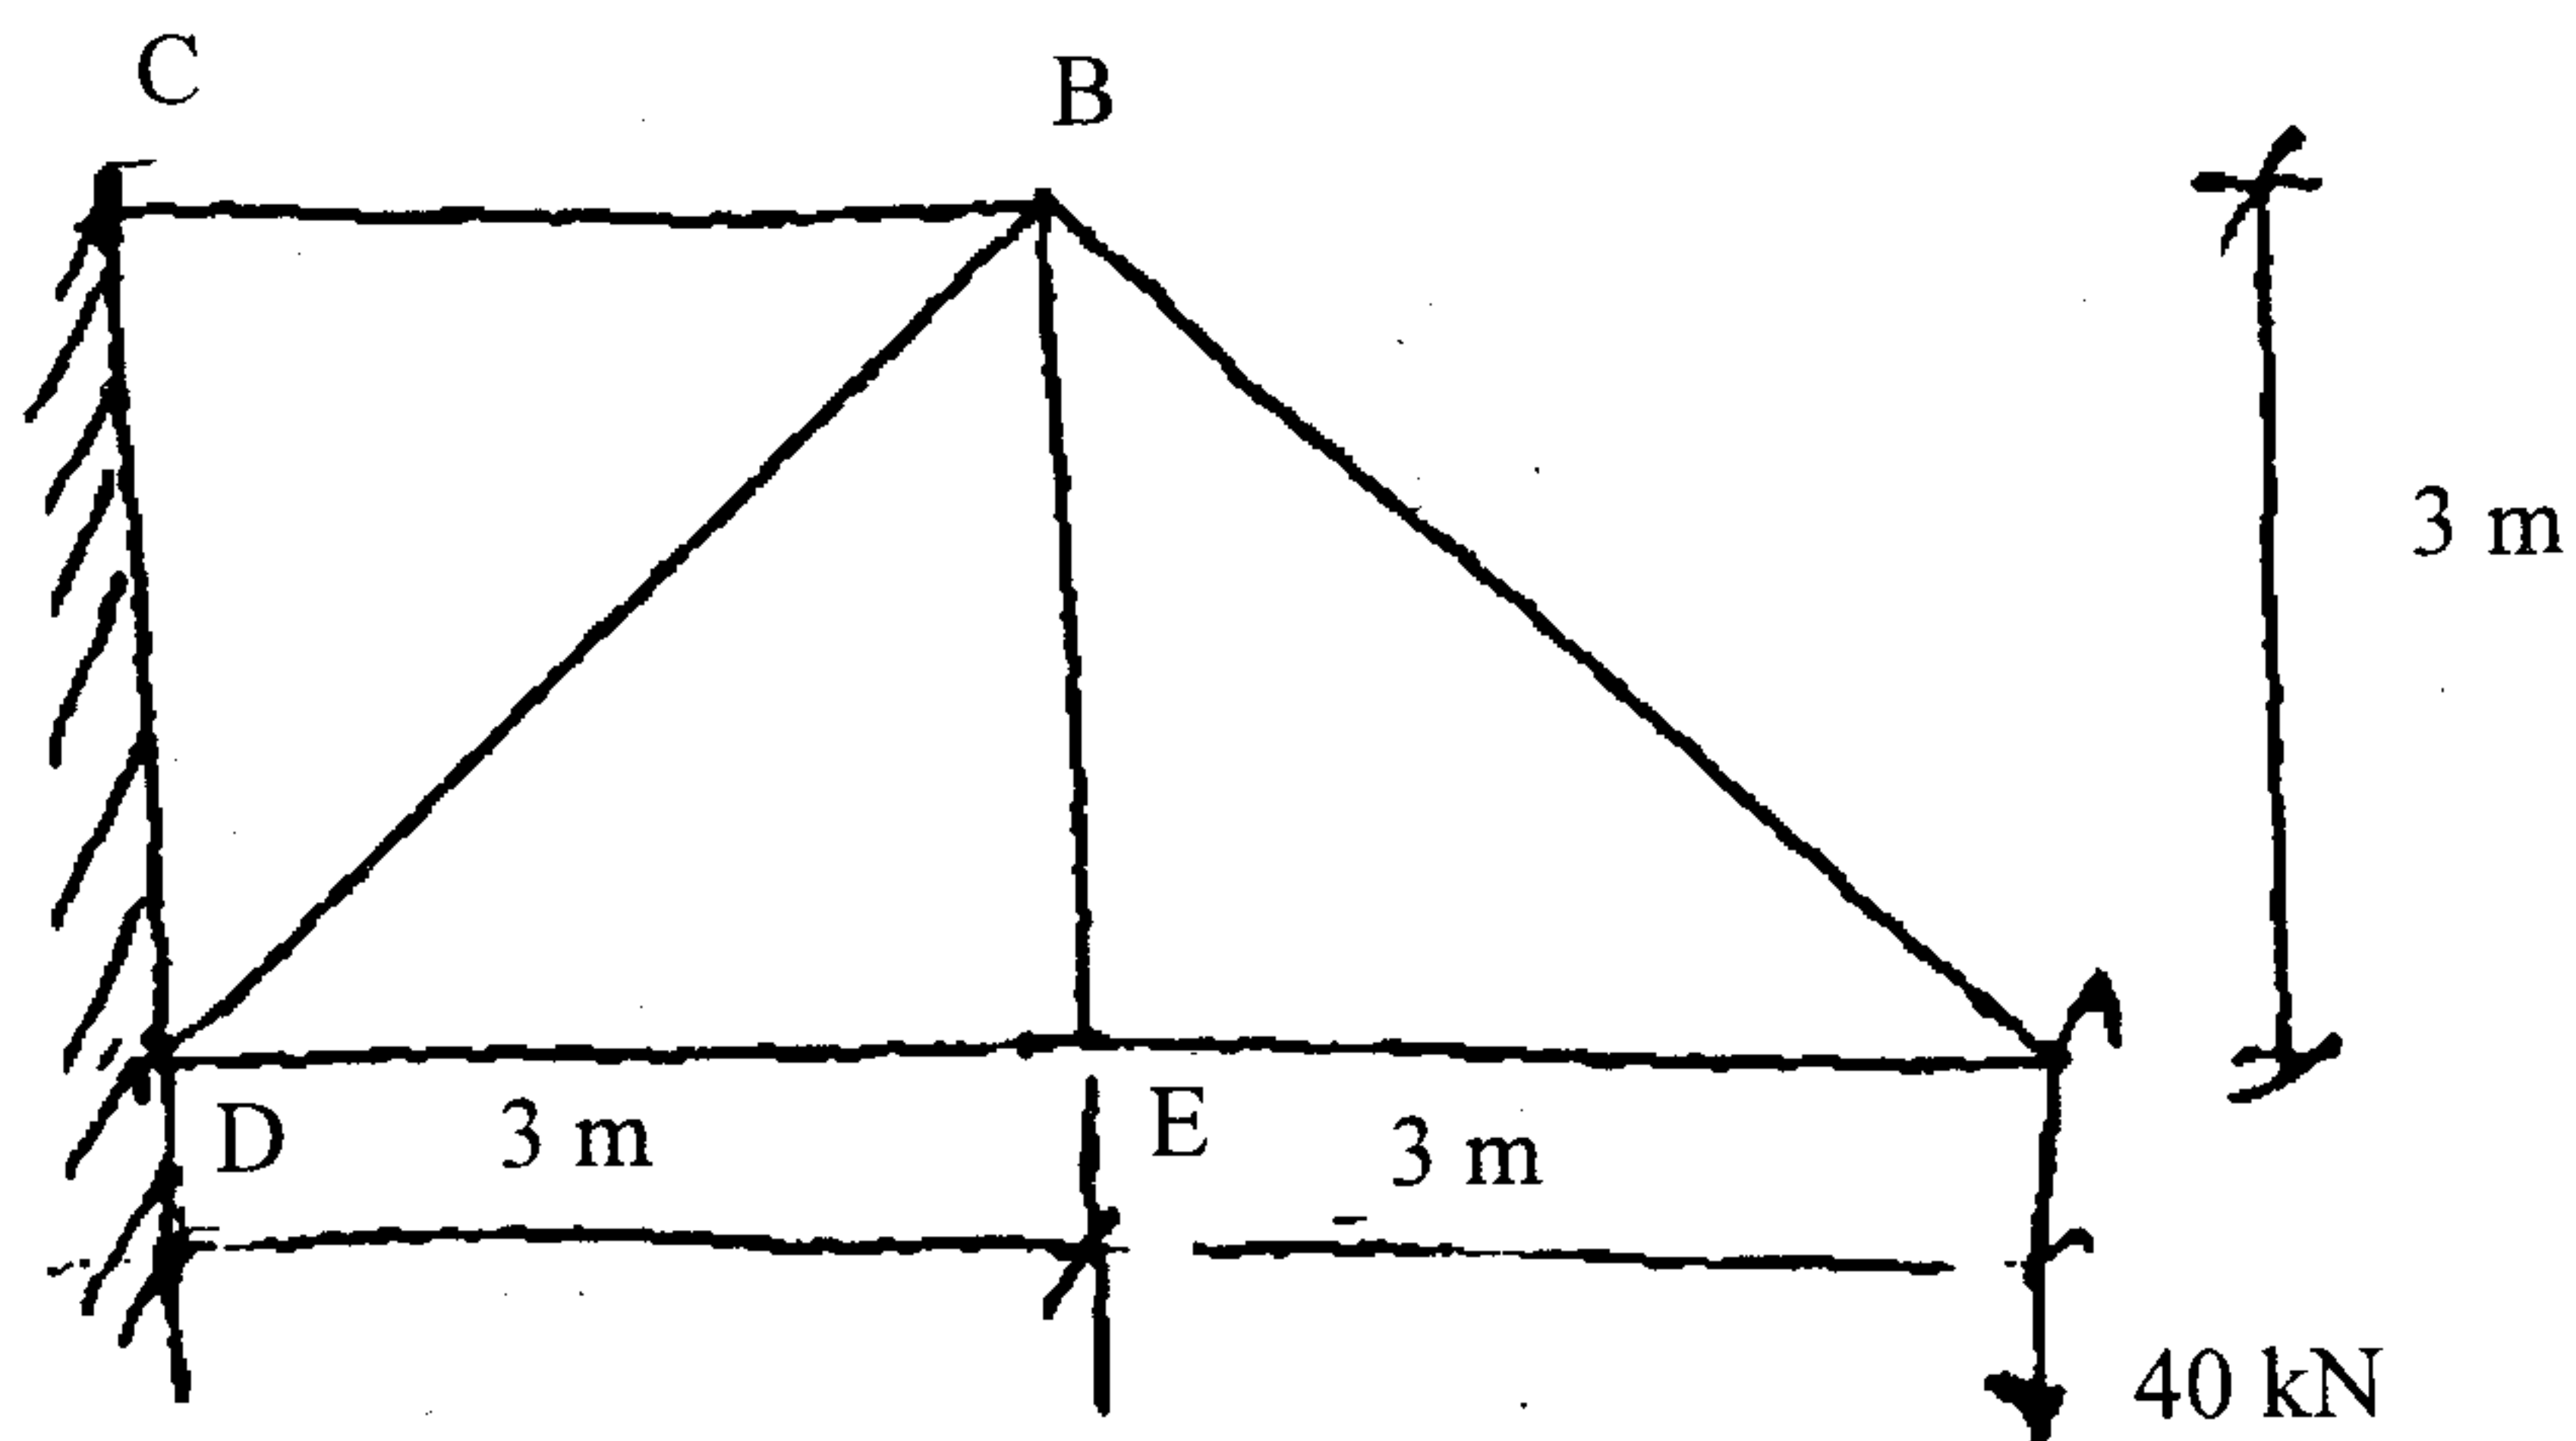

Fig. 12 (a)
- (b) The Warren girder of 25 m span is made of 5 panels of 5 m each. The diagonals are inclined at 60° to the horizontal. Draw the influence line diagram for force in upper cord member in the second panel from left. Hence evaluate the forces in it when there is a load of 60 kN at each lower joint. (16)
12. (a) Determine the vertical displacement of joint A of the steel truss shown in Fig. 12 (a). The member BE is subjected to an increase in temperature of 70°C . Take the coefficient of linear expansion as 0.0012 per $^\circ\text{C}$ and $E = 2 \times 10^5 \text{ N/mm}^2$. The cross sectional area of each member is 1250 mm^2 . (16)